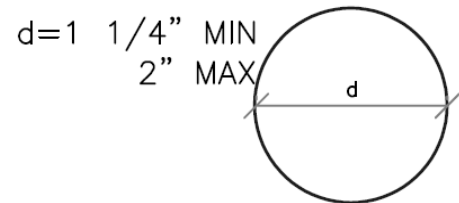

Figure 2. Circular handrail
- Circular handrails shall have a diameter of 1 1/4" – 2" (See Figure 2)